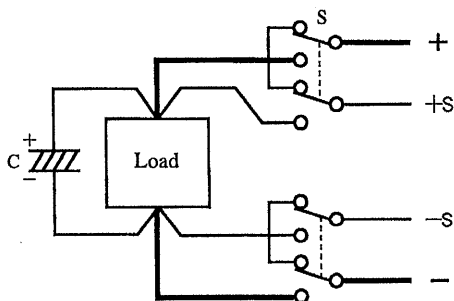

Fig. 3-4C Power ON/OFF using mechanical switches
- To turn on/off the power supplied to a load using a mechanical switch, provide additional switches between the sensing wires as shown in Fig. 3-4C; turn on/off the power and remote sensing function simultaneously.